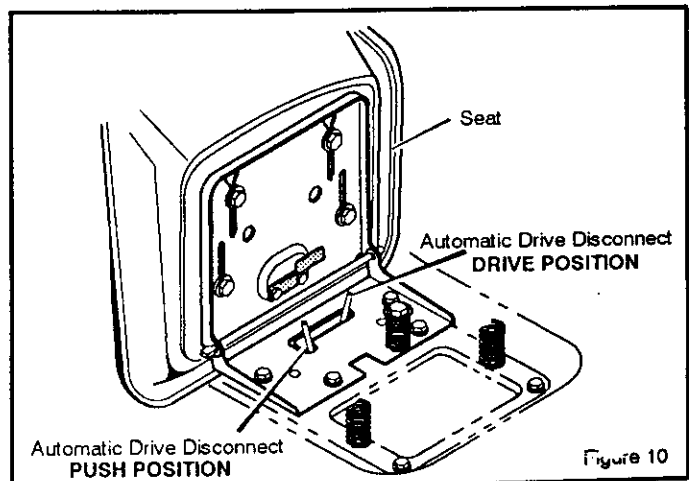

Figure 10
1. The automatic drive disconnect must be in the DRIVE position (Figure 10).
3. Move and latch the automatic drive disconnect in the PUSH position (Figure 10). The transmission is now *released* and the unit can be pushed.